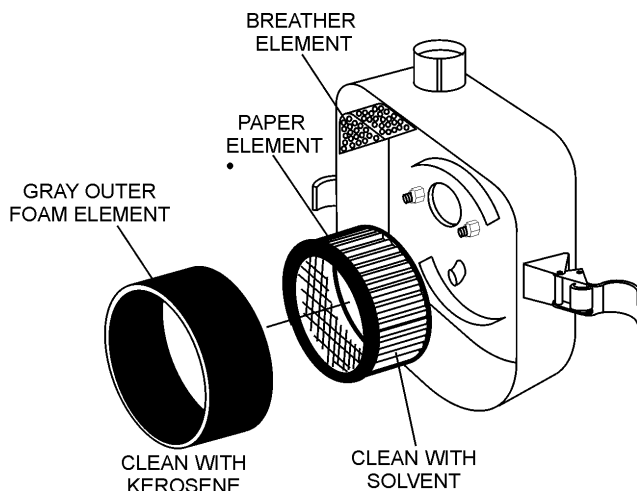

**Figure 16. Primary Air Cleaner**
- Remove the element from the pre-cleaner (Figure 16) at the top of the crankcase (body side) and clean it with cleaning oil (kerosene).